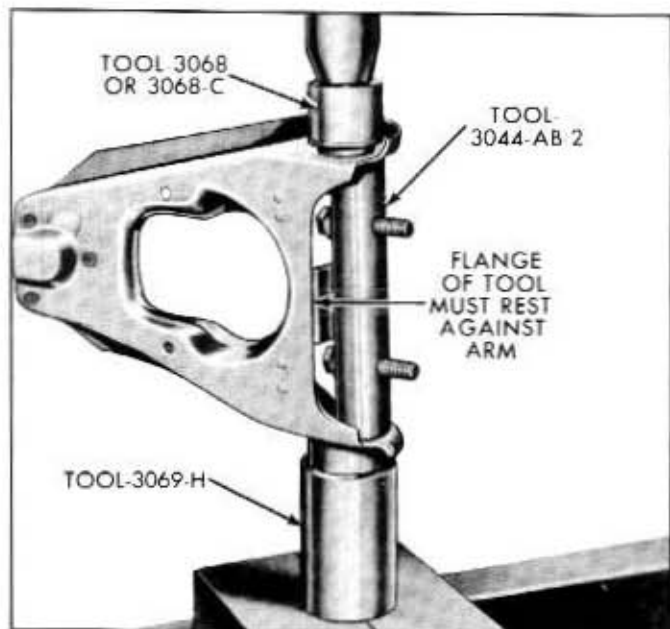

Fig. 3A-22—Installing First Inner Bushing—(60C-422)
9. Install the washer, lockwasher, and bolt on each end of inner shaft. Torque the bolts to 40-55 lbs. ft. See figure 3A-24.